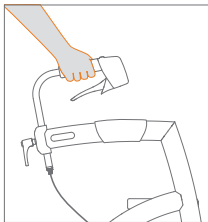

Figure 19: Driving.
- a. While walking, keep the fingers loosely around the handles (**Figure 19**). You can also keep them around the hand brakes, with your thumb on the inside of the handle.